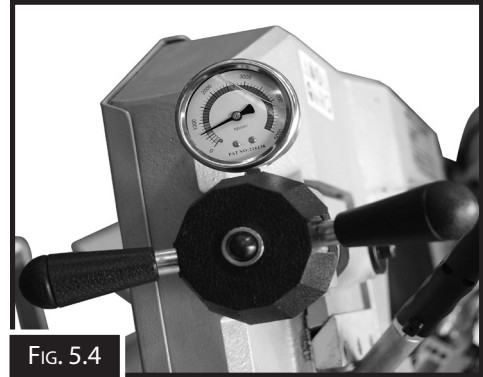

FIG. 5.4
6. Release the tension off the blade by turning the tension handle clockwise until the blade is loose. (Fig.5.4)